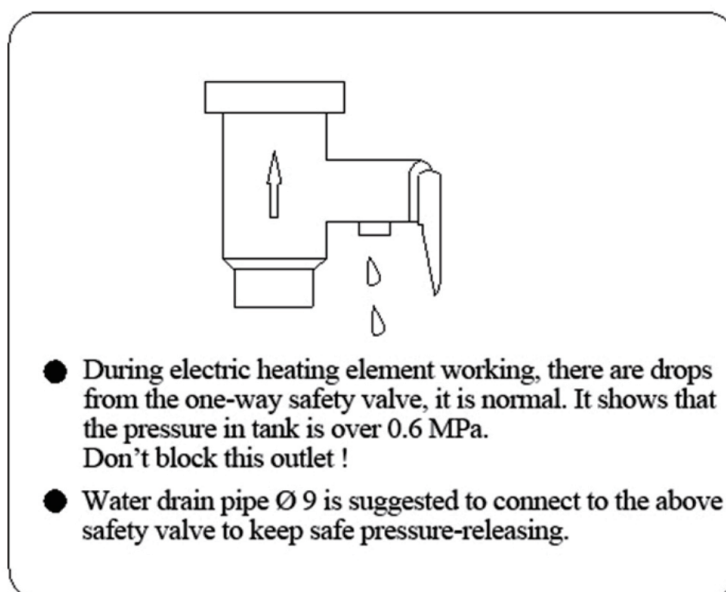
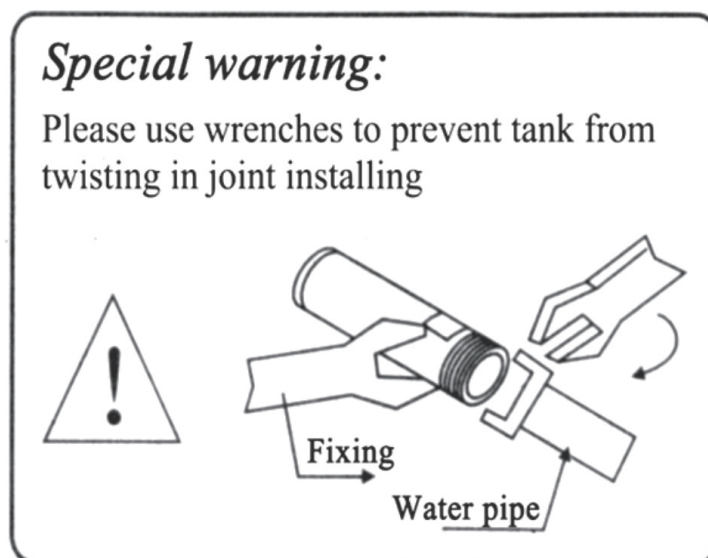

Fig.7
Fig.8
- ① There are G1/2" screw thread for all the joints of tank's cold and hot water, and the joint of P/T valve is G3/4"
- ② Layout should be according to the pipe installing regulation.
- ③ One- way safe draining valve should be installed at cool water inlet joint(Fig.7), which should be connected with air and towards downside, the position cannot be too deep, normally 10mm.
- ④ The outside pipes need over 50mm warm-keeping to avoid being frozen in winter.
- ⑤ While connecting pipes, do not use too big force. (Fig.8)